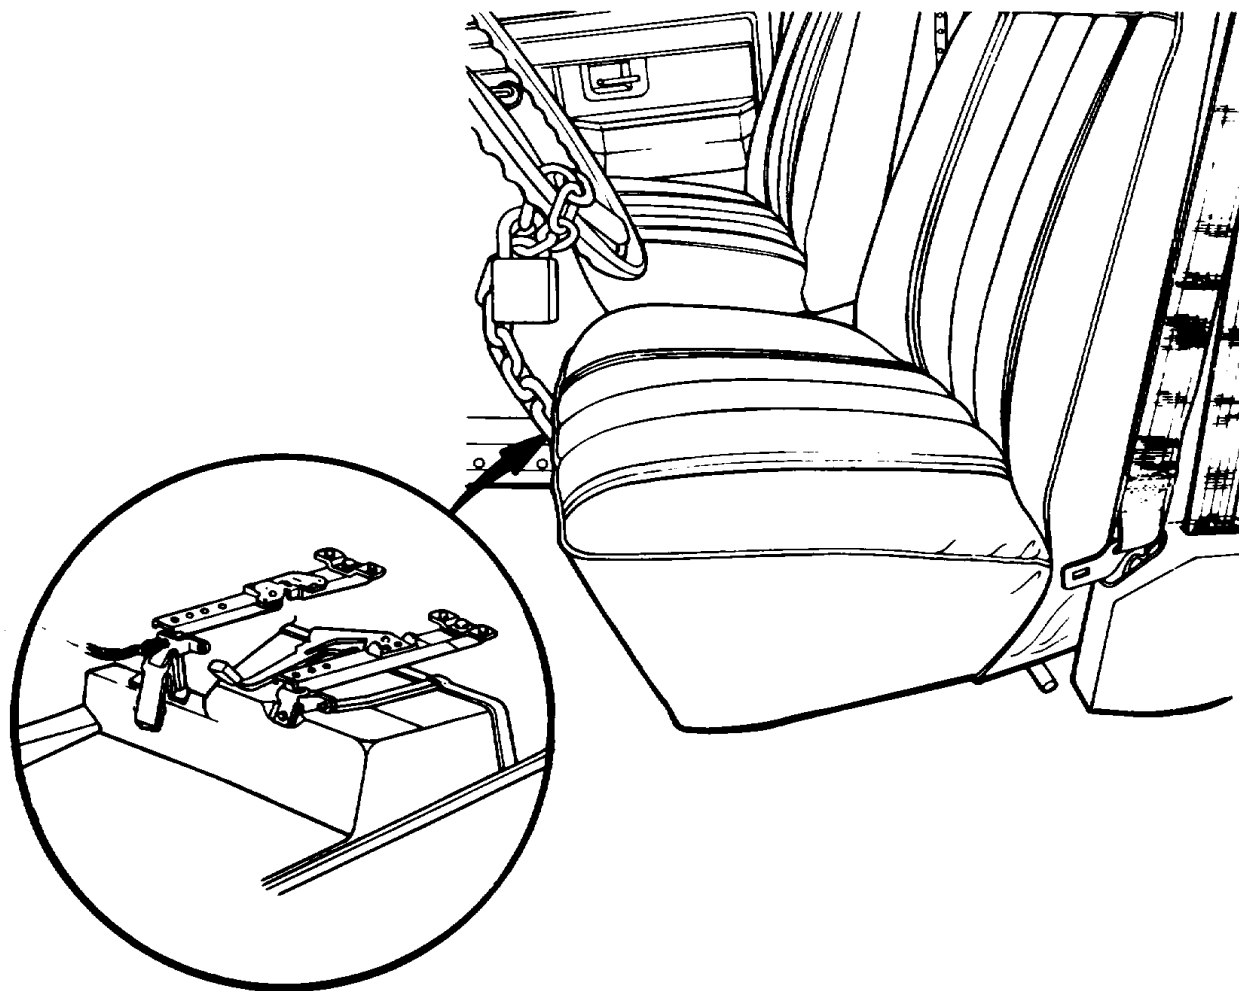

Figure 6. M1010 Ambulance Chain Position.
- a. Drill a 27/64 inch hole in the forward end of driver's "Right-Hand" seat riser bracket. Locate hole 9/16 inch from the top of bracket and 5/8 inch from the edge of bracket. Insert screw in hole with threaded area facing outboard, attach end of chain with washer and nut, then tighten. After tightening, the nut should be staked to prevent removal (Fig. 6).